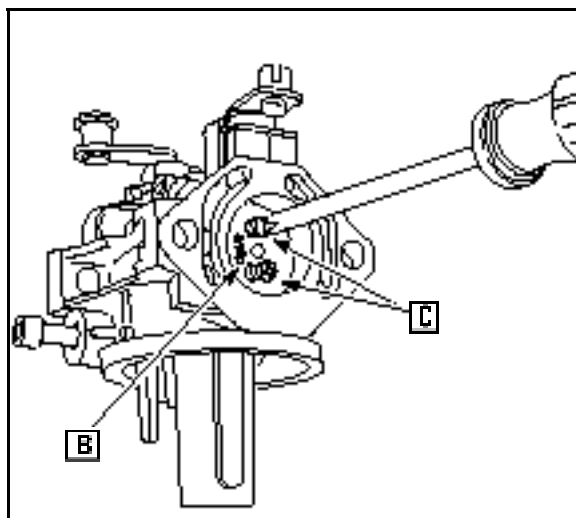

Fig. 82
5. Lay the throttle plate (A) on the shaft with the stamped numbers (B) to the left. Install two screws ([C] Fig. 82).